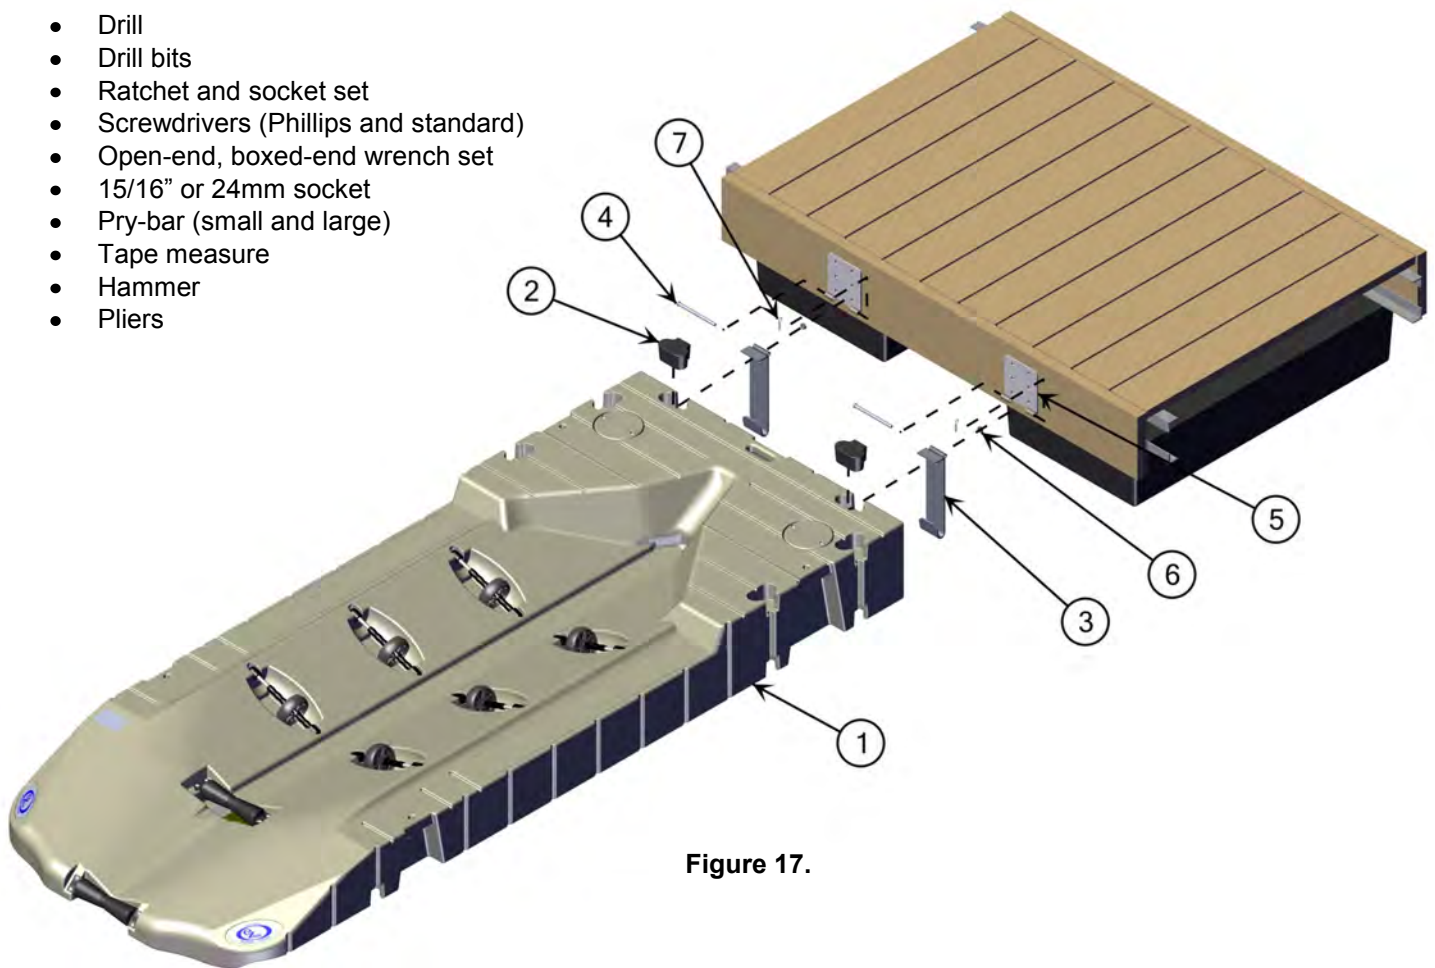
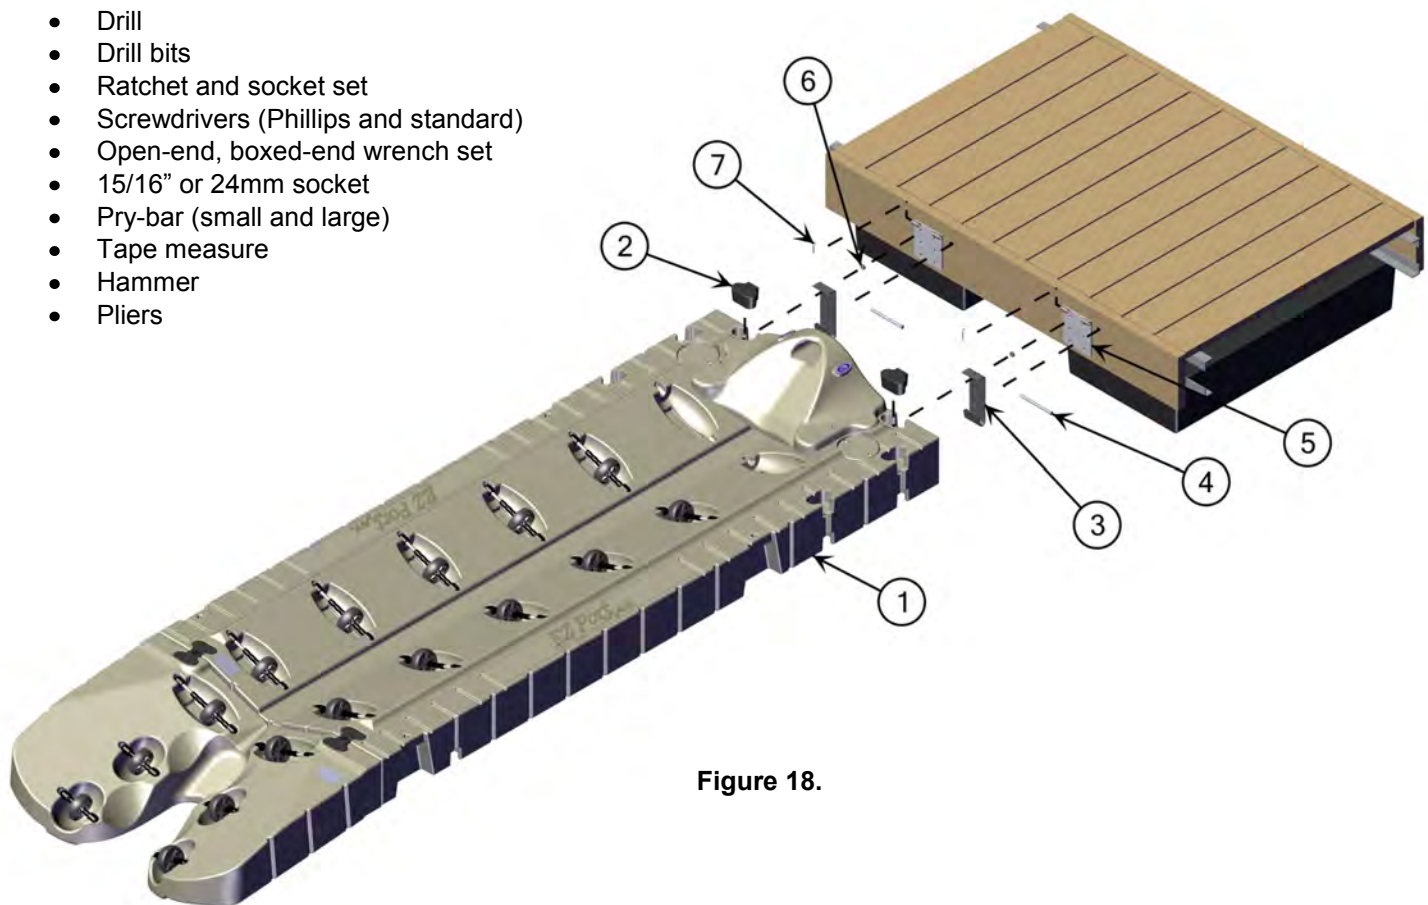

Figure 17.
Figure 18.
The 100750 or 100750SS hinge kit is required when anchoring an EZ Port MAX Entry (206030PW-\*\*) with Full Bow Section (206025BS-\*\*), or the EZ Port MAX Integrated Bow (Item 1) (Figure 17). The full bow section must be attached to the EZ Port MAX with the screws provided prior to the installation, (See Page 11 Figure 4 for bow section installation instructions).
2. Determine the best position for the hinge adapter plate. The plate can be above (Figure 17), perpendicular, or directly in front of the hinge adapter bracket, (Figure 18).